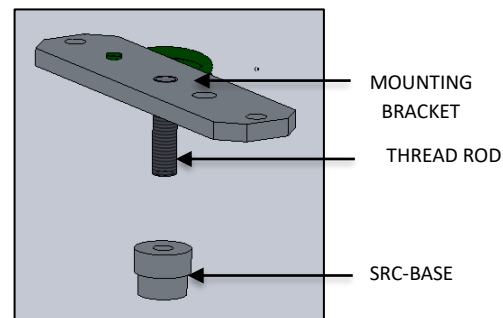

FIG. 30 - THREAD ROD INSTALLATION
21. Screw the THREAD ROD into the top of the SRC-BASE until fully seated. Then assemble the THREADED ROD/ SRC-BASE into the center hole of the MOUNTING BRACKET until SRC-BASE is fully seated against MOUNTING BRACKET as shown below in FIG. 30.